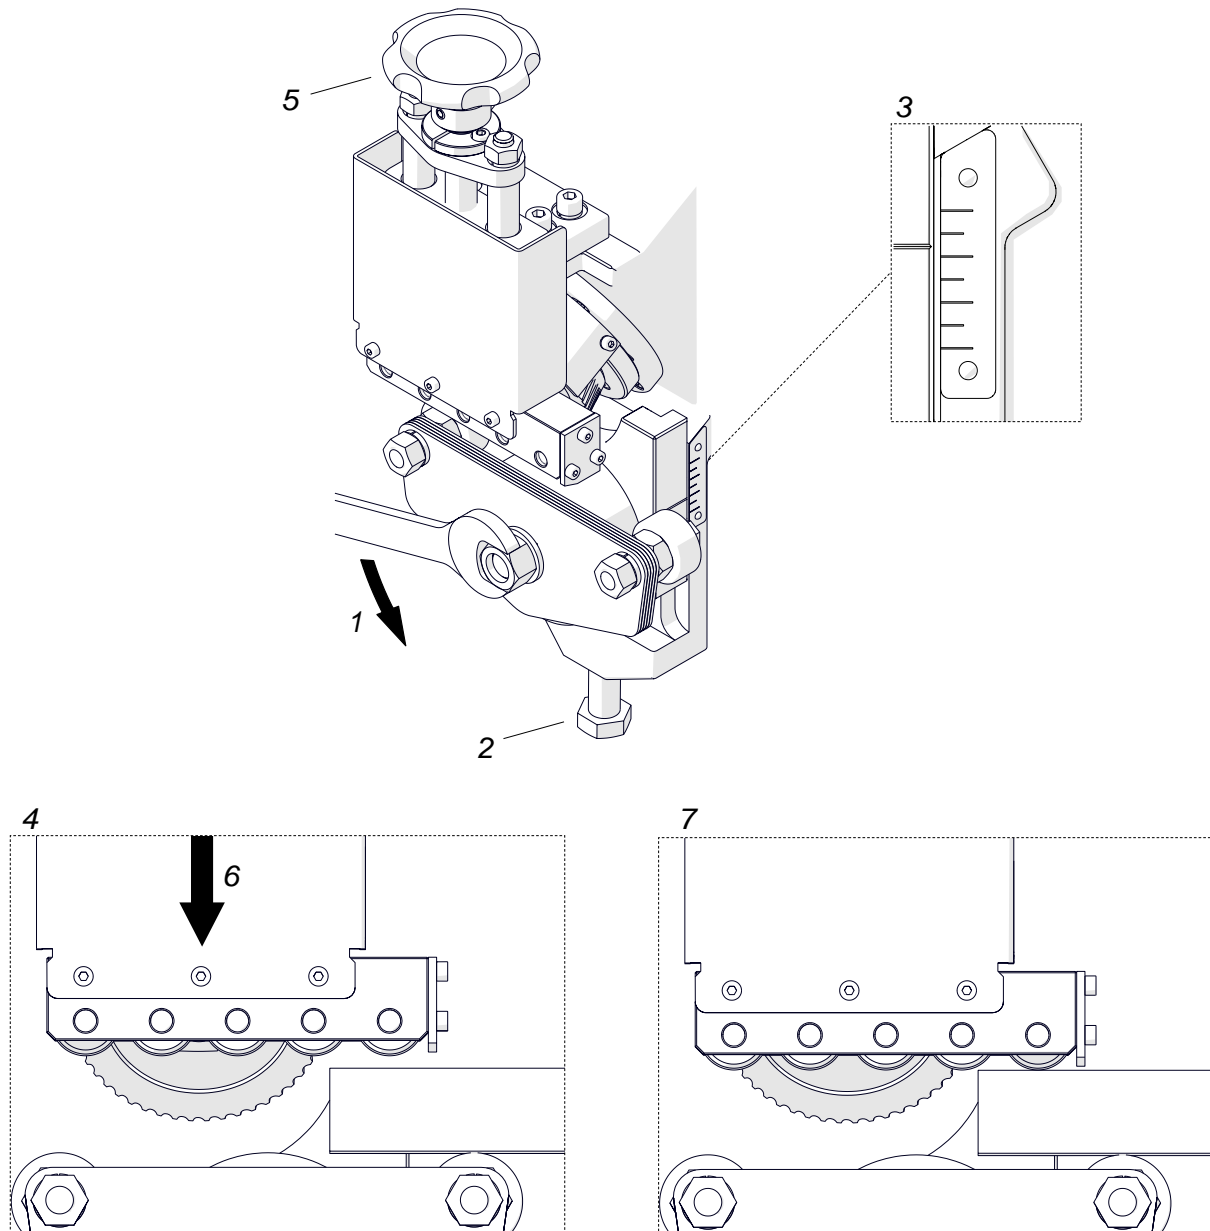

Fig. 2. Adjusting the bevel height and the clamp
Use the 24 mm flat wrench to loosen the nut (1, Fig. 2). Rotate the bolt (2) so that the scale is set to the value of the plate thickness (3), and then tighten the nut. Next, place the plate on the support roller (4), and then use the knob (5) so that the clamp rollers make contact with the plate (6, 7).